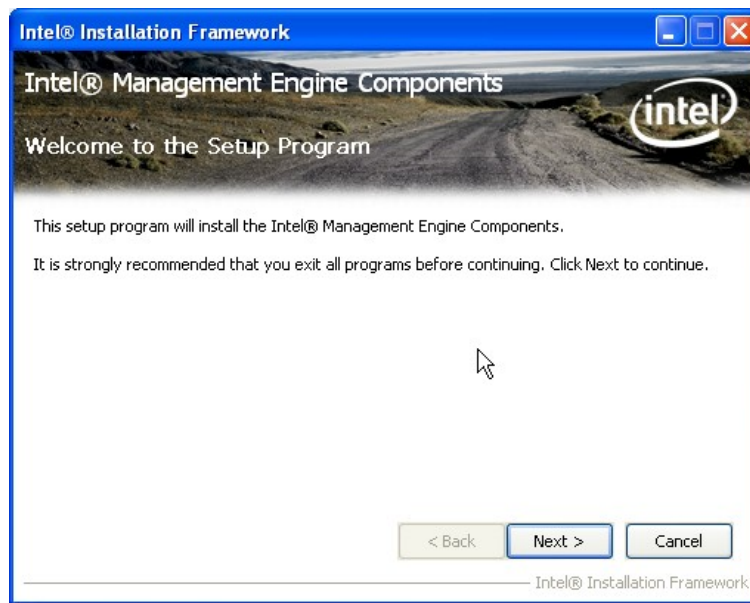

Figure 6-23: Intel® ME Driver Welcome Screen
Step 5: When the setup files are completely extracted the **Welcome Screen** in **Figure 6-23** appears.